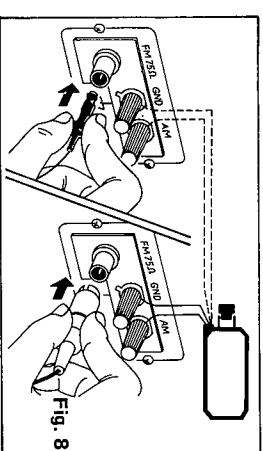

Fig. 8
- 75-ohm antenna with coaxial type connector (DIN 45 332) for W. Germany (Fig. 8)